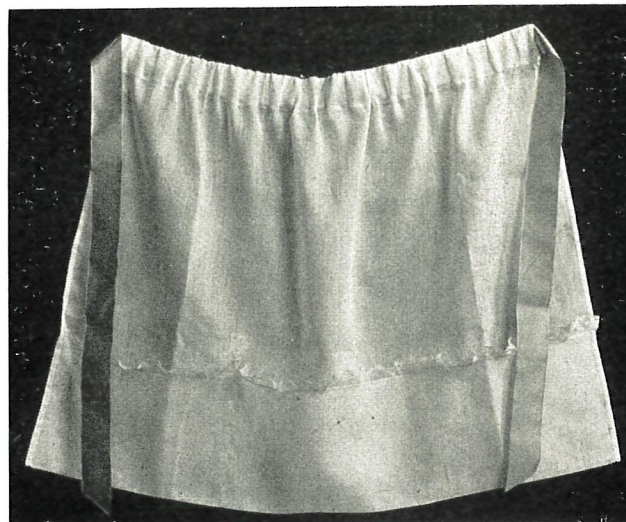

Fig. 8a. Sewing Apron.
The following outline of the Sewing Apron shown in Fig. 8a indicates: (1) The number of $1\frac{1}{2}$ hour lessons. (2) Amount of work to be done each lesson. (3) Steps in construction.